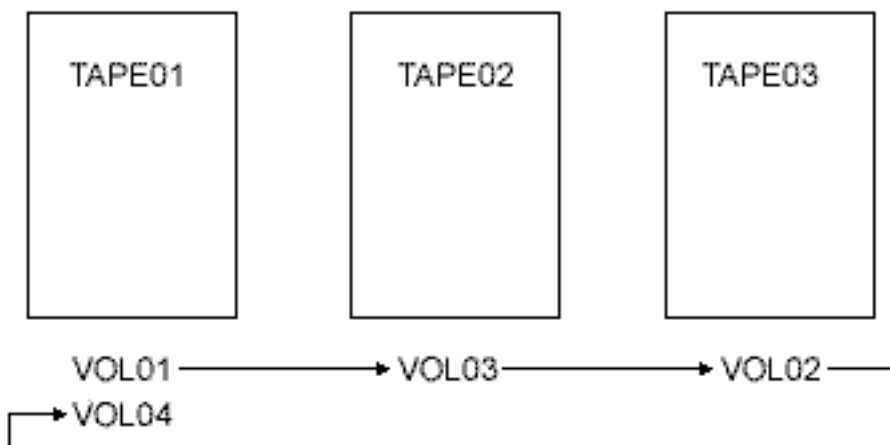

Figure 1. Multivolume-Tape-Data-File-Sequence Using Three Tape Devices
- If you specify more than one tape device, then place the volumes on the devices in the sequence that is specified in the tape device file. Refer to the following reference: Figure 1. For example: